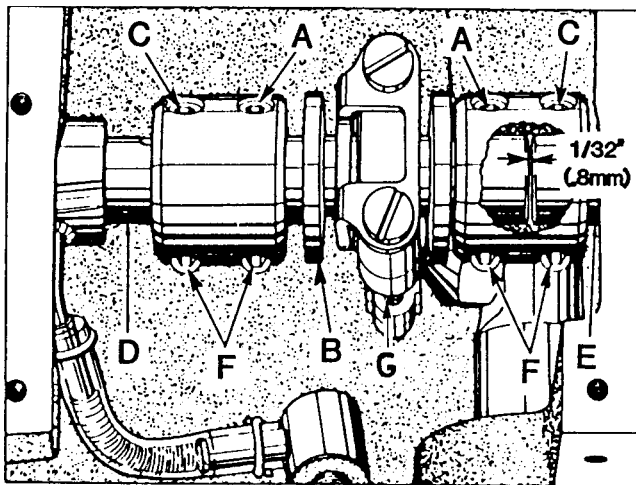
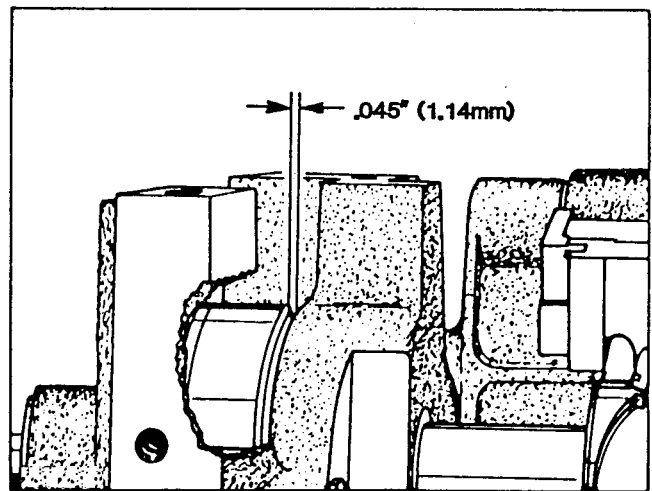

Fig. 16
Fig. 17
As viewed looking down from rear of machine, spot screw (A, Fig. 16) in the couplings must align with the spots in the looper drive crank (B) and set screws (C) must align with the flats on crankshaft (D) and mainshaft (E). Mainshaft must be positioned laterally with .045 inch (1.14mm) clearance between the right side of its head and the bed casting as shown (Fig. 17).
Looper drive crank (B, Fig. 16) must be positioned laterally so that strap (G, Fig. 16) is vertical and 1/32 inch clearance is maintained between end of crank and end of mainshaft (E) as shown. Once these settings are made, it is very important that the couplings are tightened in the following sequence for best performance.